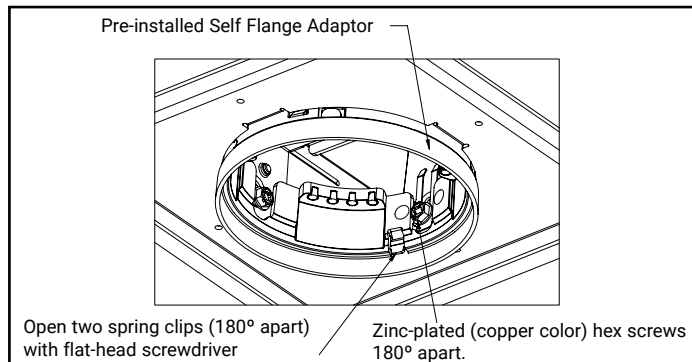

Figure 1.
3. Locate the Zinc-plated (copper color) hex screws (see Fig. 1). Loosen them slightly, but do not remove them completely. For removing the standard 0.5"-0.75" adaptor, pry open clip using flat head screwdriver to disengage from collar slot.